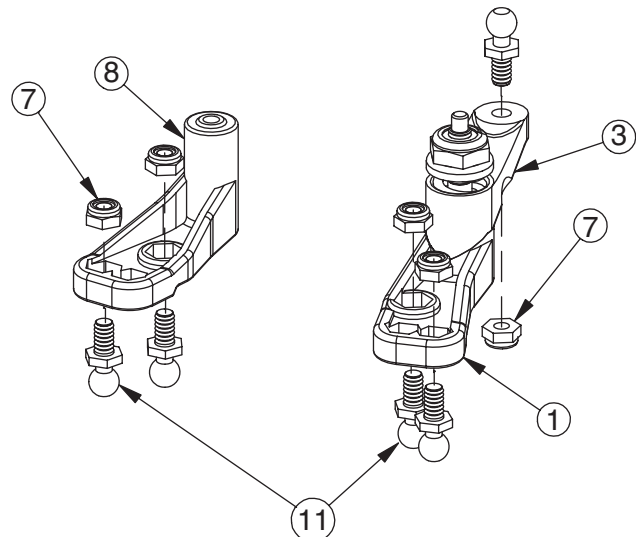

Figure A-2
- ❑ 1. Insert a 4-40 Mini-Locknut (7) into the outer hex area in the Servo Saver Bottom (1) and steering Idler Arm (8) as shown in Figure A-2. Thread a 3/16" Ball Stud (11) through the outside hole in the Servo Saver Bottom and steering Idler Arm and into the Nuts, and tighten. Insert a 4-40 Mini-Locknut into the hex area, on the underside of the Servo Saver Top (3). Thread a 3/16" Ball Stud through the hole in the Arm, into the Nut, and tighten.
- ❑ 2. Insert a 4-40 Mini-Locknut into the hex areas in the rear holes of the Servo Saver Bottom and the steering Idler Arm as shown in Figure A-2. Thread a 3/16" Ball Stud through the Arms, into each Nut, and tighten.